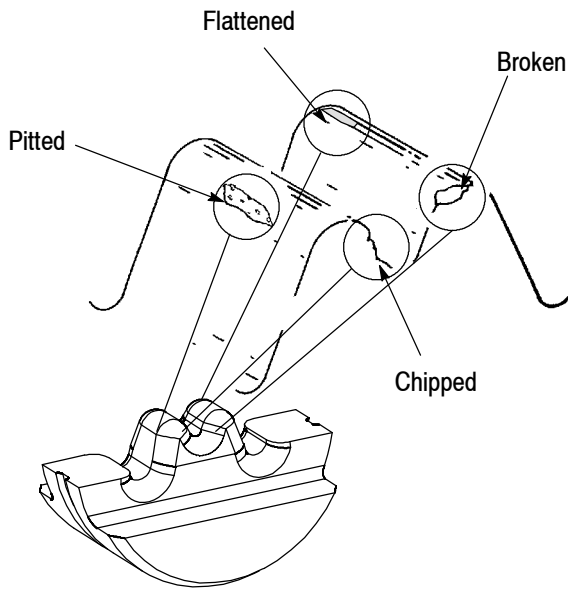

Figure 7
**A. Visual Inspection (Figure 7)**